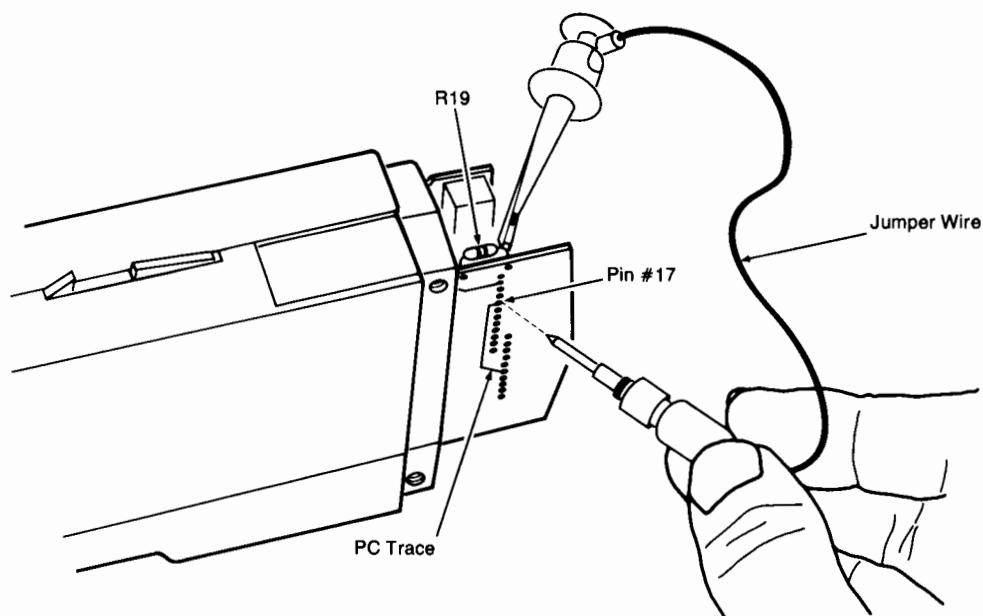

Figure 4-2. Jumper placement for a synchronizing reset
THE SYNCHRONIZING RESET OF THE CLOCK CHIP IS A DELICATE PROCEDURE. IF YOU NEED TO PERFORM THIS STEP, STUDY FIGURE 4-2 CLOSELY AND PROCEED VERY CAREFULLY. IF THE PERIOD INDICATIONS OBSERVED IN STEP #6 ARE SUFFICIENTLY STABLE, GO DIRECTLY TO STEP #7. DO NOT PERFORM THE SYNCHRONIZING RESET UNLESS IT IS NECESSARY.
- 6A. If a synchronizing reset is necessary, you should very briefly touch +5 volts to pin #17 of the clock chip (U15). Refer to Figure 4-2. Use a jumper wire with a miniature clip on one end. Attach the clip to the lead of R19 which is closest to the upper corner of the processor board. Then **very briefly** touch the other end of the jumper wire to pin #17 of U15. Pin #17 can be easily identified by the vertical trace running to it on the circuit side of the PC board. Do not attach the wire to pin #17; do not hold the wire to pin #17; and do not touch the wire to any other pin except pin #17. After you have applied the brief pulse to pin #17, remove the jumper wire from R19.